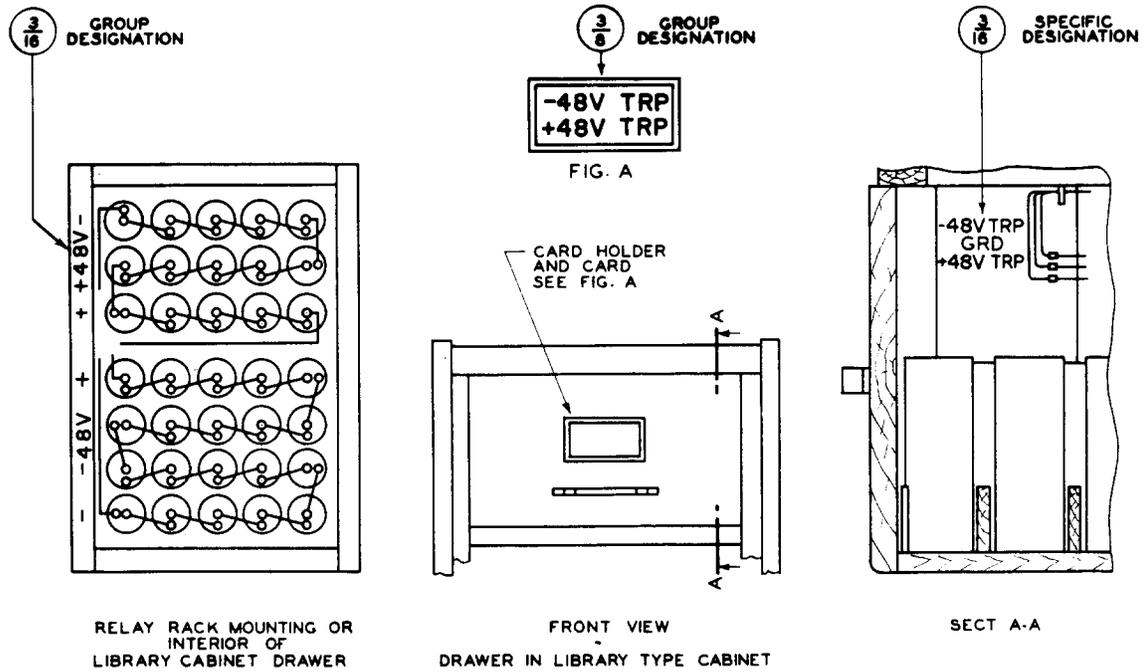

Fig. 10 - Dry Cells - No. 6 Type
2.12 Dry Cell Batteries: (See Fig. 10 and 11.)